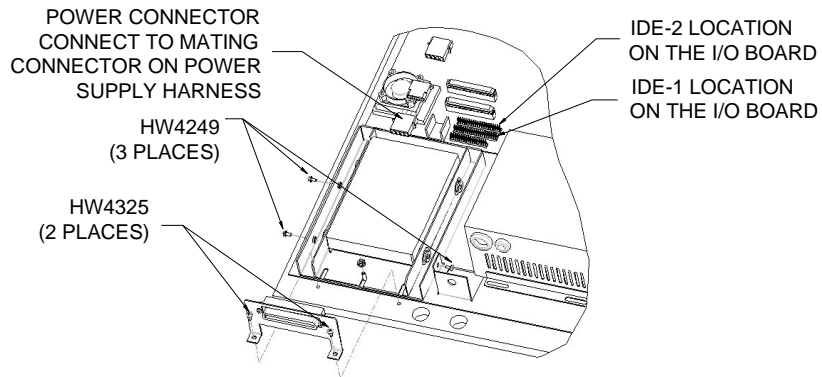

FIGURE 12 - HARD DRIVE/CENTRONICS INSTALLATION
13. Secure the hard drive assembly to the right and left CD-ROM brackets using the (3) HW4249 screws. See Figure 12.